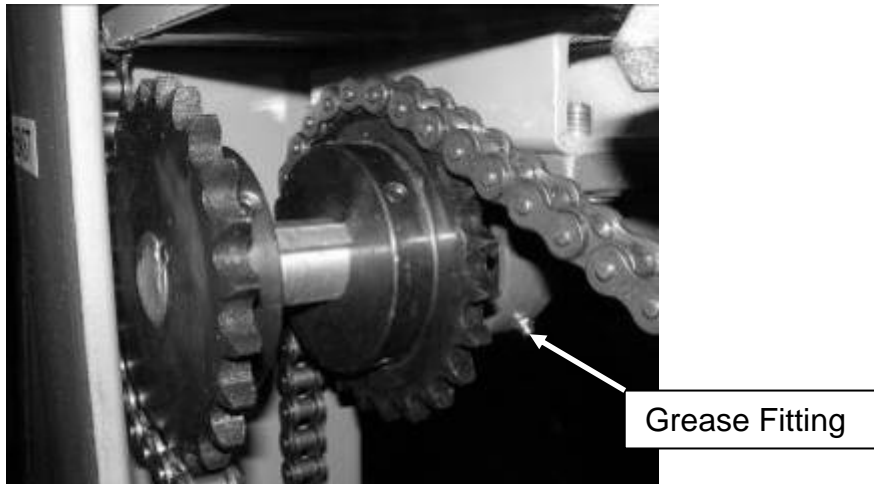

Figure 39 Shaft Bearing Lubrication
- Grease the shaft bearings located beneath the lower vehicle platform at the front and rear of the lift with light grease. The grease fittings are located on each bearing housing (total eight – four per end) **as shown in Fig. 39.**